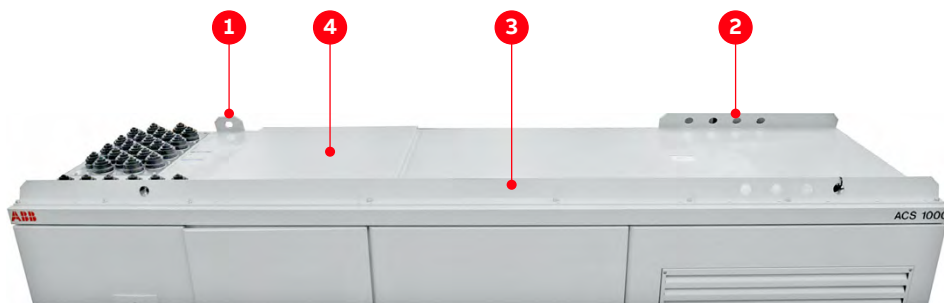

Figure 6-4: Redundant fan unit – Removing lifting rails and cover
1. Remove the lifting rails (1, 2 and 3 in Fig. 6-4).
2. Remove the cover (4 in Fig. 6-4).